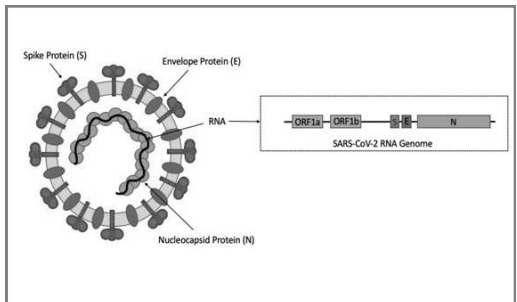

Figure 1. SARS-CoV-2 Structure and Molecular Targets. Common SARS-CoV-2 virus antigenic targets include spike, envelope, and nucleocapsid proteins.
A novel coronavirus (identified as 2019-nCoV) emerged in the Chinese province of Hubei (Wuhan) in December 2019, which has resulted in hundreds of thousands of confirmed human infections worldwide. Cases of severe illness and deaths have been reported. On February 11, 2020 the International Committee for Taxonomy of Viruses (ICTV) renamed the virus SARS-CoV-2. The median incubation time is estimated to be approximately 5 days with symptoms estimated to be present within 12 days of infection. The most common symptoms of COVID-19 (according to WHO), are similar to other viral respiratory diseases and include fever, dry cough and tiredness. The virus spreads primarily through droplets of saliva or discharge from the nose when an infected person coughs or sneezes. Coronaviruses are enveloped, positive-sense, single-stranded RNA viruses with a nucleocapsid of helical symmetry and are composed of several proteins including the Spike (S), Envelope (E), Membrane (M) and Nucleocapsid (N) proteins (Figure 1). Molecular and antigen testing are the only techniques capable of detecting the SARS-CoV-2 virus. Nucleocapsid protein is a most abundant protein of coronavirus. During virion assembly, N protein binds to viral RNA and leads to formation of the helical nucleocapsid. Nucleocapsid protein is a highly immunogenic phosphoprotein also implicated in viral genome replication and in modulating cell signaling pathways. Because of the conservation of N protein sequence and its strong immunogenicity, the N protein of coronavirus is chosen as a diagnostic tool.